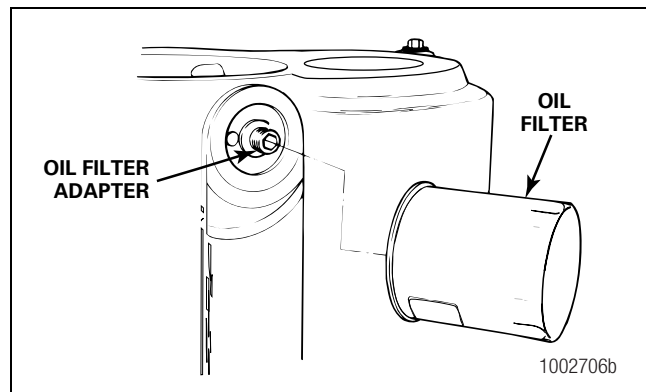

Figure 5.118
18. If removed, install the oil filter adapter onto the differential carrier. Use Meritor specification 2297-P-3994, Loctite® 680 adhesive, or equivalent. Refer to Section 4. Tighten the adapter to 40-60 lb-ft (55-80 N•m). Figure 5.118.
19. Apply axle lubricant to the gasket of the new oil filter. Install the oil filter onto the adapter. When the gasket on the filter contacts the carrier, tighten the oil filter an additional 3/4 of a turn. If necessary, use an oil filter wrench to tighten the filter. Figure 5.118.